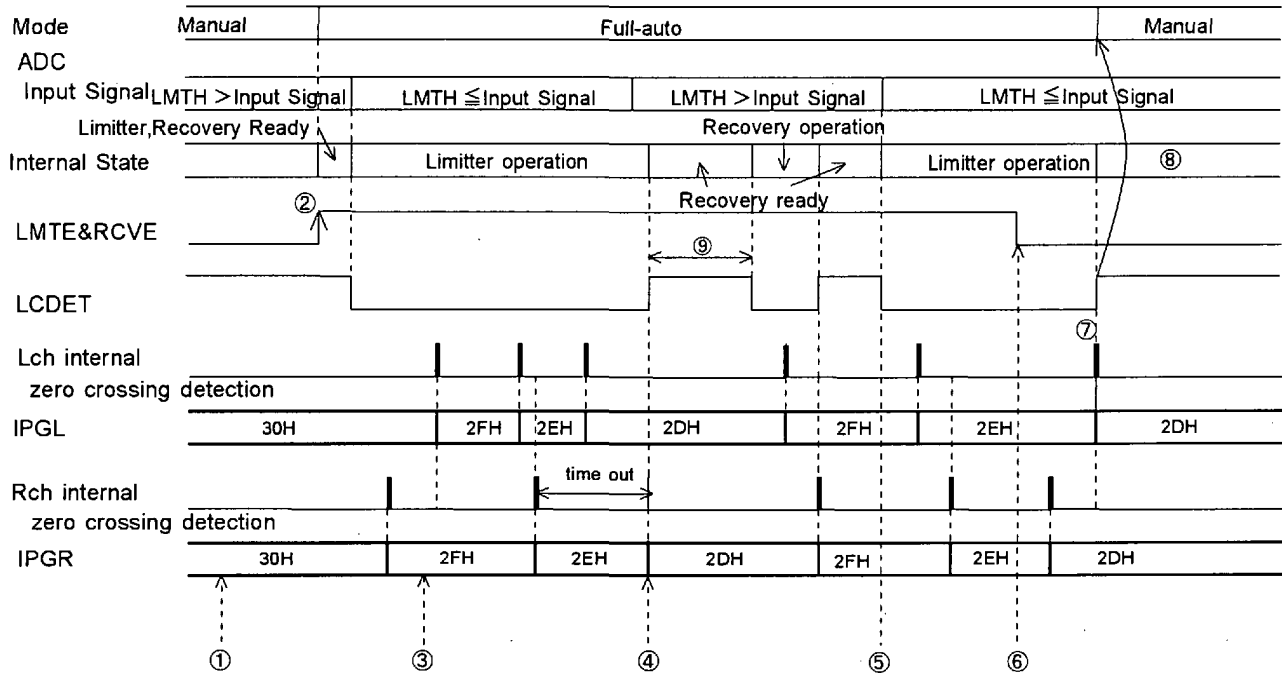

Figure 9 . Control example of full-auto mode operation (LMAT=RATT: 1 step, ZENM=ZELM="1")
- ① Set-up the registers of full-auto mode (LTM1-0, ZELM, LMTH1-0, LMAT2-0, WTM1-0, RATT1-0, NRTM1-0, ZENM, REF6-0, GSEL, IPGL, IPGR, LRGA="1")
- ② WR(LMTE=RCVE="1"): After the registers concerned in the auto limiter operation is set up and confirming the zero crossing flags(ZFIPL, ZFIPR)="1", LMTH and RCVE are set "1".
- ③ WR(IPGA="31H"):As the operation is full-auto mode, writing by uP is ignored.
- ④ The ready of recovery starts.
- ⑤ As the input signal of ADC exceeds LMTH, the recovery operation (in the figure, recovery ready) is discontinued and the limiter operation starts.
- ⑥ WR(LMTE=RCVE="0"):The full-auto mode operation is completed.
- ⑦ In Figure 9 , since "0" is written to LMTE & RCVE during the ATT operation, the operation changes to the manual mode after completing ATT operation. After confirming LCDDET="1", it is possible to change the each register set-up. If LMTE&RCVE are set "0" during the full-auto mode operation, LCDDET becomes "1" after the max "1" ATT/GAIN operation is completed by internal state.
- ⑧ In this case, the input signal of ADC exceeds LMTH, the auto limiter does not operate because of LMTE=RCVE="0".
- ⑨ After the limiter operation is completed, the AK4516A waits for the time set by WTM1-0. If the input signal does not exceed (LMTH - 2dB), the recovery operation is executed. After the waiting time finishes the next waiting time starts immediately. In recovery ready, the waiting timer is reset under the condition of (LMTH - 2dB) ≤ Input Signal < LMTH. And the timer starts under the condition of (LMTH - 2dB) > Input Signal.